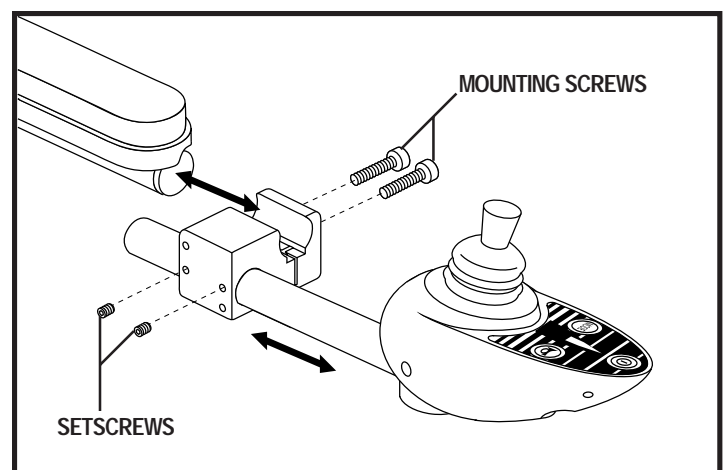

Figure 12. Controller Installation - Mounting Block
5. Install the controller into the mounting block or under the armrest. See figure 12 or 13.
NOTE: *If your power chair is equipped with a Synergy Seat or TRU-Balance Power Positioning System, loosen the mounting screws (see figure 12) and remove the mounting block from the armrest. Transfer the mounting block and controller to the opposite armrest and tighten the mounting screws to secure the controller in place.*